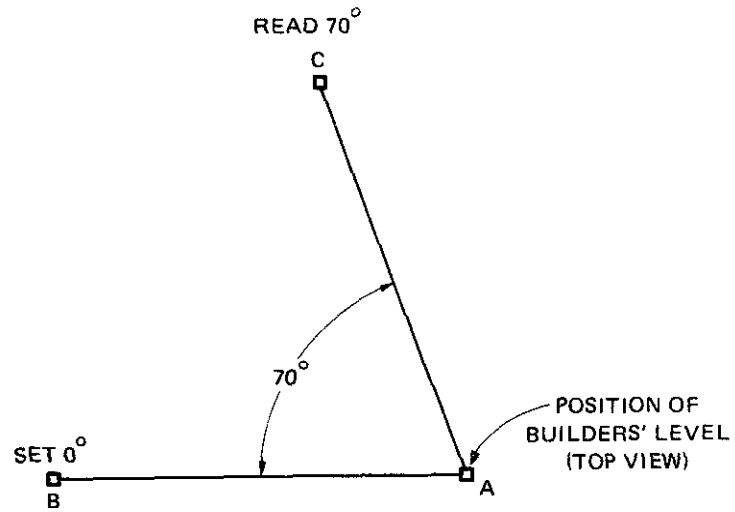

Fig. 5-43 Measuring an angle
1. Set up and level at A. See figure 5-43.